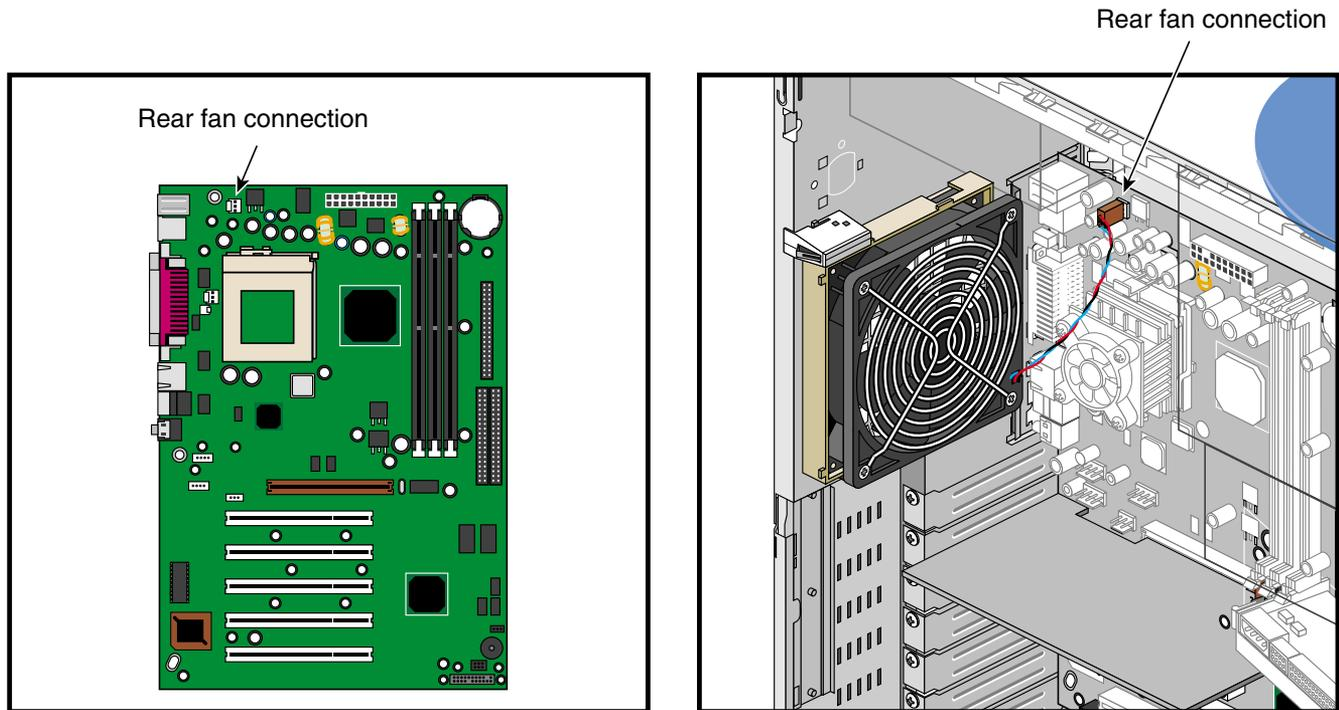

Figure 2-13 Connecting Rear Fan Cable
3. Disconnect the fan cable from the system board. See Figure 2-13 on page 34 for the location of the fan cable connection.
10. Connect the fan cable. For the location of the rear fan cable connection, see Figure 2-13.